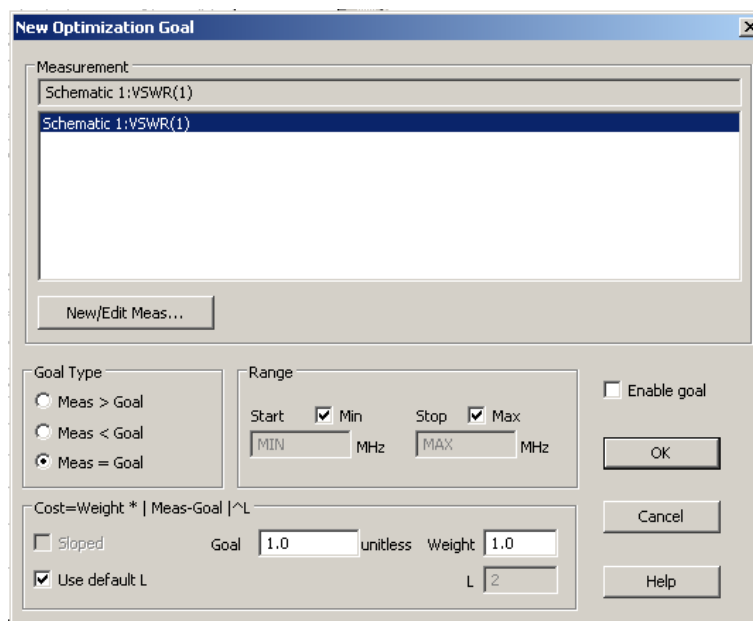

Figure 8.12: Chart 6 : Optimisation Goals Dialogue Box
- A dialogue box similar to figure 8.12 will appear. If there are any goals already listed, make sure they are disabled by un-checking the ‘Enable Goal’ box.